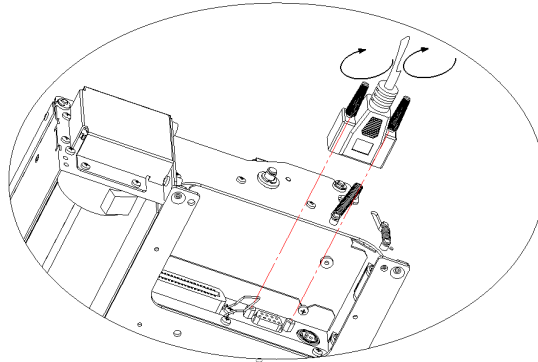
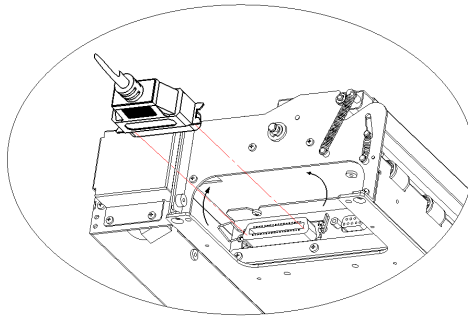
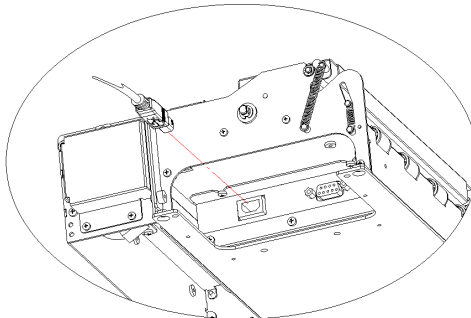

Figure 2.5.1 Serial interface layout
Figure 2.5.2 Parallel interface layout
Figure 2.5.3 USB interface layout
- Connect one end of the interface cable into a relevant interface of the printer and fix them with screws or latch springs as Fig.2.5.1, Fig.2.5.2 and Fig.2.5.3.